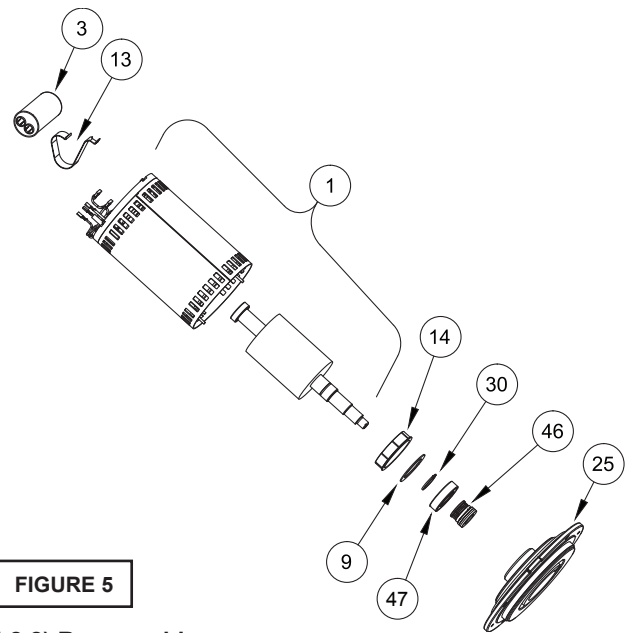

FIGURE 5
Power - Refill the cooling oil as outlined in paragraph F-1.4. Make wire connections as outlined in paragraph F-3.3. Insert female end of cord plug into housing bore aligning timing mark with hole in terminal block (27) (see Figure 5). Compress cord plug with compression flange (10a) by tightening cap screws (24) into the motor housing (2). Torque to 132 in-lbs.